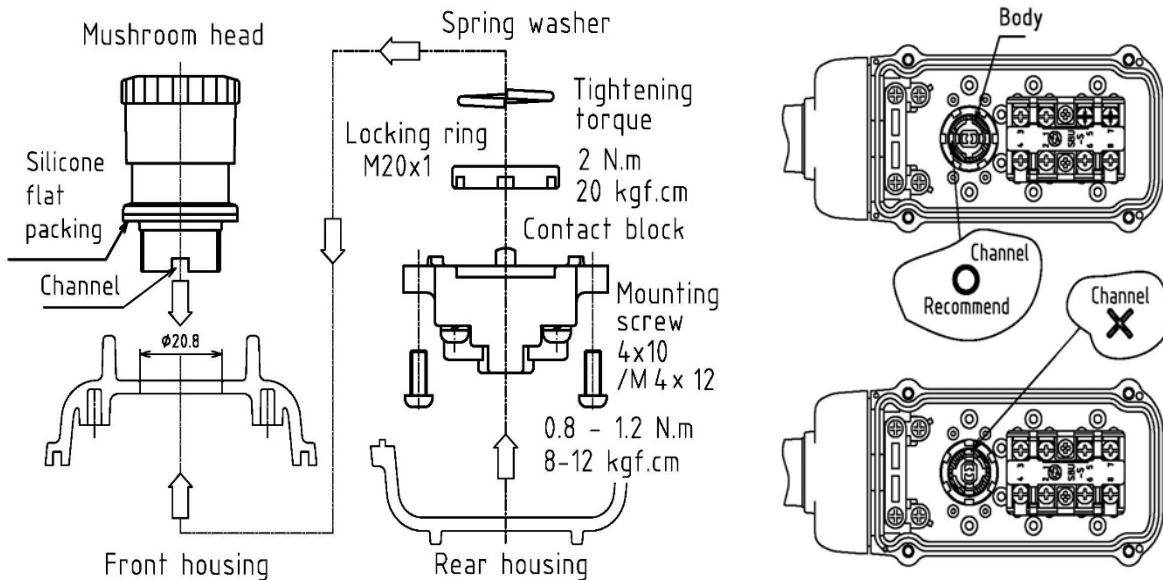

Figure 1: Cross-section and Top View of E-Stop Switch Installation
1. Refer to Figure 1 for assembly and removal.